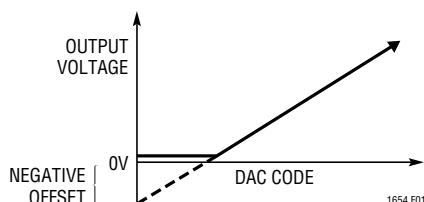

Figure 3. Effect of Negative Offset
**Voltage Offset Error ( $V_{OS}$ ):** Normally, DAC offset is the voltage at the output when the DAC is loaded with all zeros. The DAC can have a true negative offset, but because the part is operated from a single supply, the output cannot go below 0V. If the offset is negative, the output will remain near 0V resulting in the transfer curve shown in Figure 3.